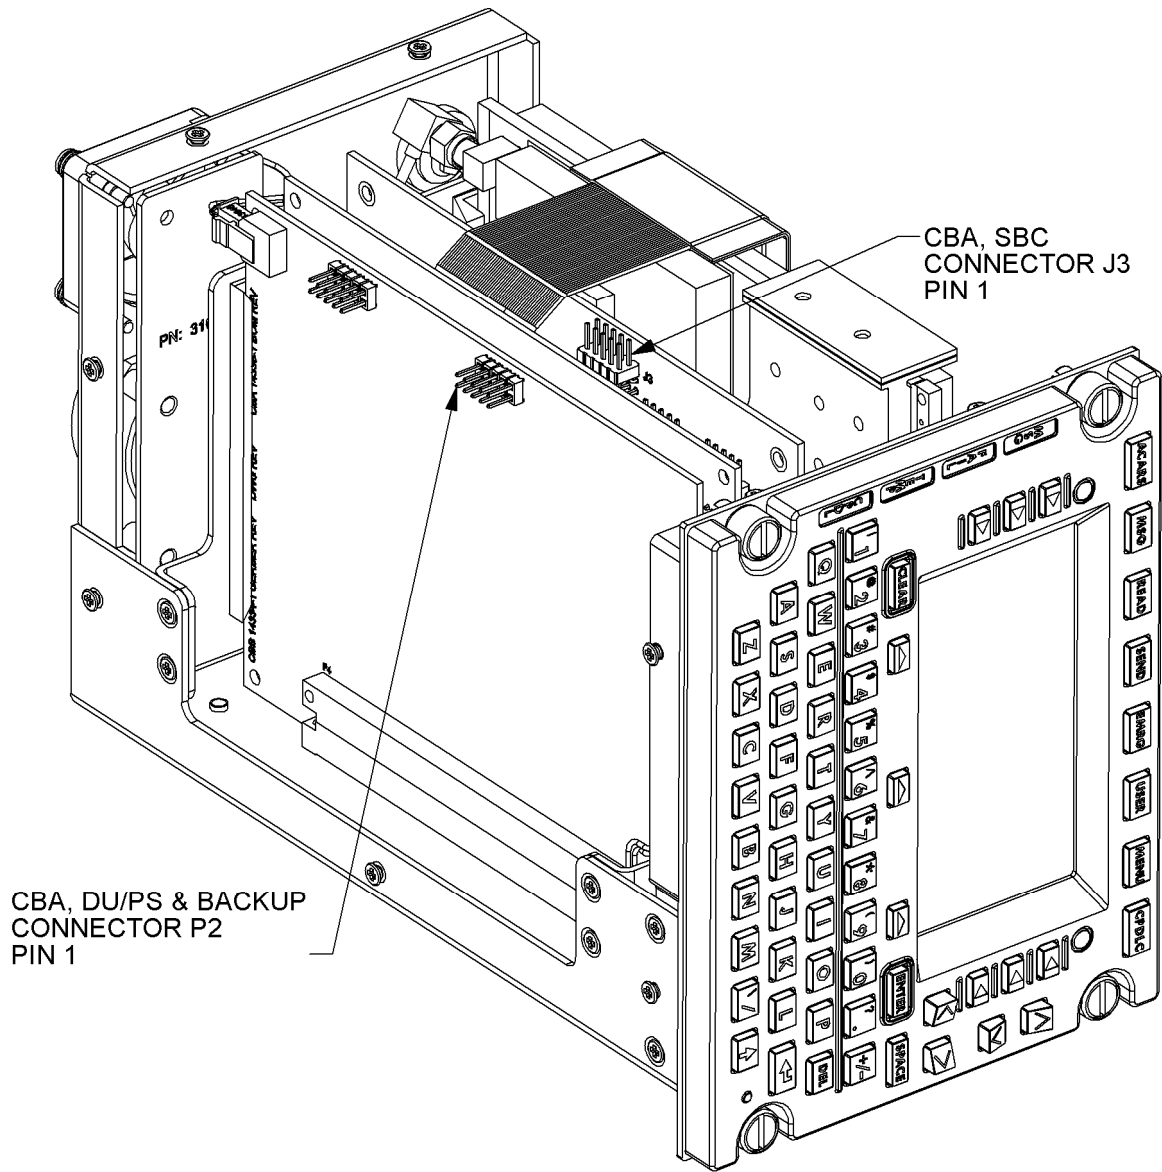

Figure 3. DU/PS and SBC Programming Connectors
- F. Attach the USB-ML-PPCBDM ribbon cable to J3 on the SBC CBA (circuit board assembly). Install so that the red edge of the ribbon cable is nearer to pin 1. See **Figure 3. DU/PS and SBC Programming Connectors.**
- P. Remove the USB-ML-PPCBDM ribbon cable from the IO and attach to P2 on the DU CBA. Install so that the red edge of the ribbon cable is nearer to pin 1. See **Figure 3. DU/PS and SBC Programming Connectors**.